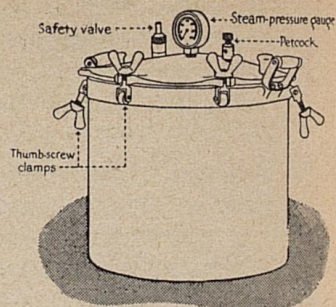
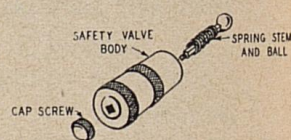

Fig. 58
Fig. 59
1. After each use, clean pressure cooker, Fig. 58, like any aluminum utensil, page 32. Wipe inside of lid with a damp cloth. Handle lid carefully and never put in water. Leave lid off the cooker when not in use, as storing it closed causes the aluminum to pit and discolor.
2. Take the safety valve apart and clean the parts often, Fig. 59. Keep the ball clean with fine steel wool or vinegar. **Caution:** Unless this is done you have no safety protection. Safety valve should "pop off" between 16 and 20 pounds pressure; if it "pops off" too soon, stretch spring, Fig. 59; if it does not "pop off" mash spring down some. A new spring may be needed. Clean pet cock, Fig. 58, with fine steel wool.
3. **Caution:** Never open cooker without looking at the gauge to see that it registers "zero", and at the pet cock to see that it is open and all steam has escaped, Fig. 58. Cool gradually and always open lid away from you.
6. Have pressure gauge, Fig. 58, tested whenever possible. If it fails to return to "zero", it may be adjusted by the manufacturer or a new gauge may be bought.